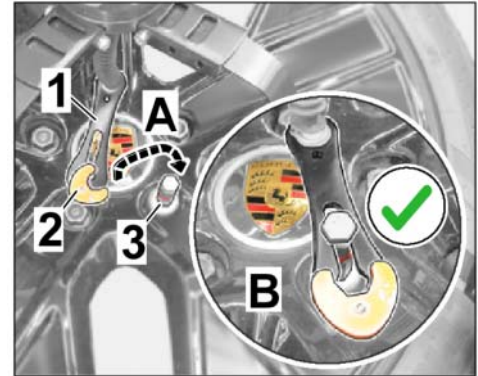

Figure 9
2.3.1 Engage fastening lever, with the safety flap (orange) visibly facing outwards, into a free groove on the spacer bolt (⇒ *Figure 9-A and B*).